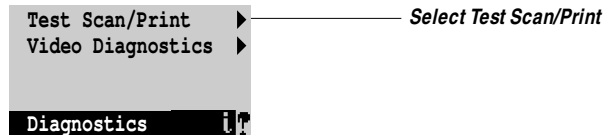

Figure 6-12 Test Scan/Print option
4. **At the screen shown in Figure 6-12, select Test Scan/Print.**